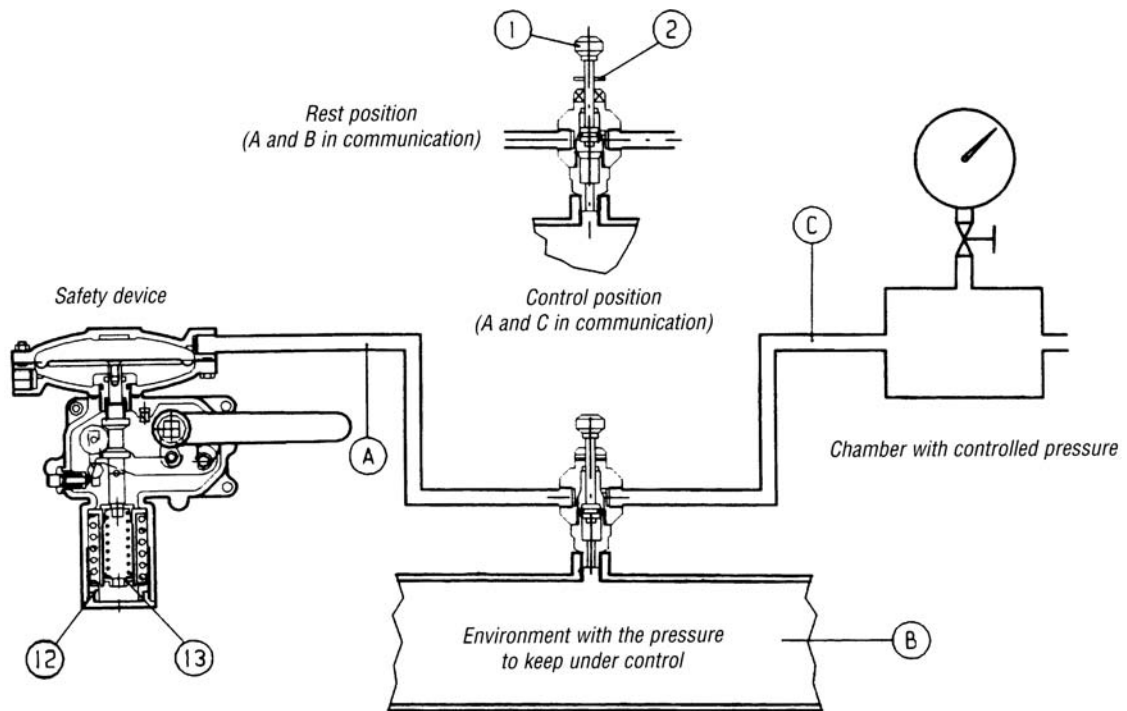

Fig. 9
A) For slam-shuts connected to the downstream piping by a three-way deviator “push” valve proceed as follows (Fig. 9):